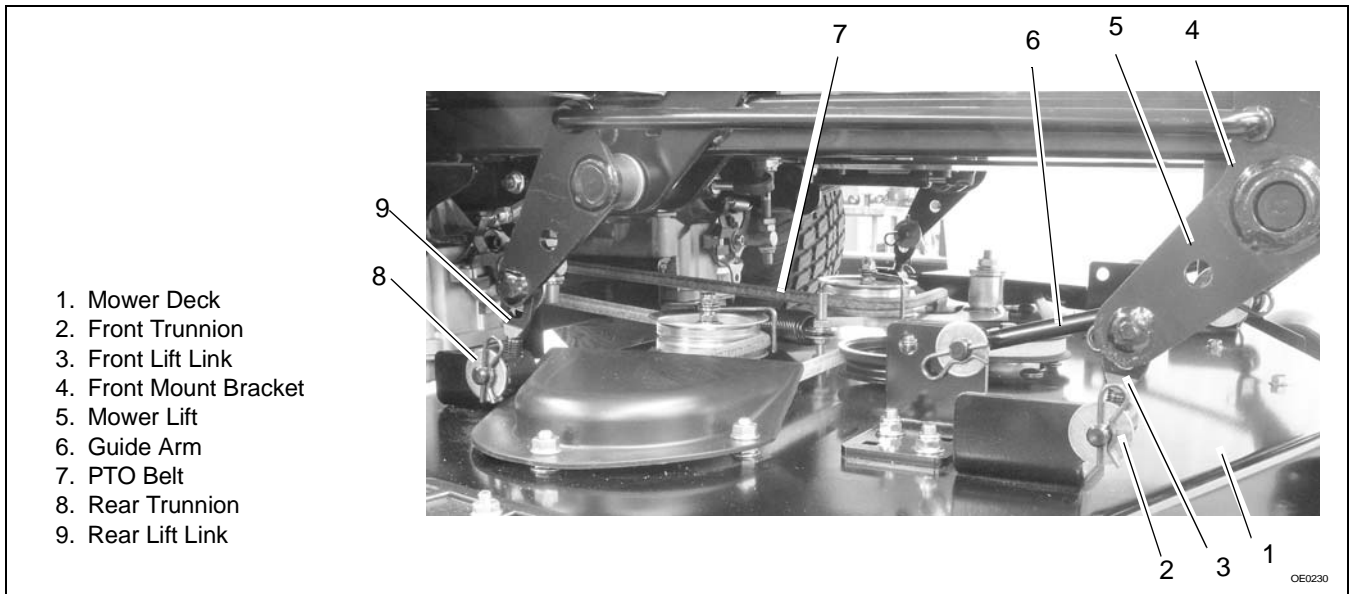

Figure 6
**Remove (Figure 6)**
**Install (Figure 6)**
5. Remove front lift link and front trunnion from mower deck and mower lift (Figure 6).